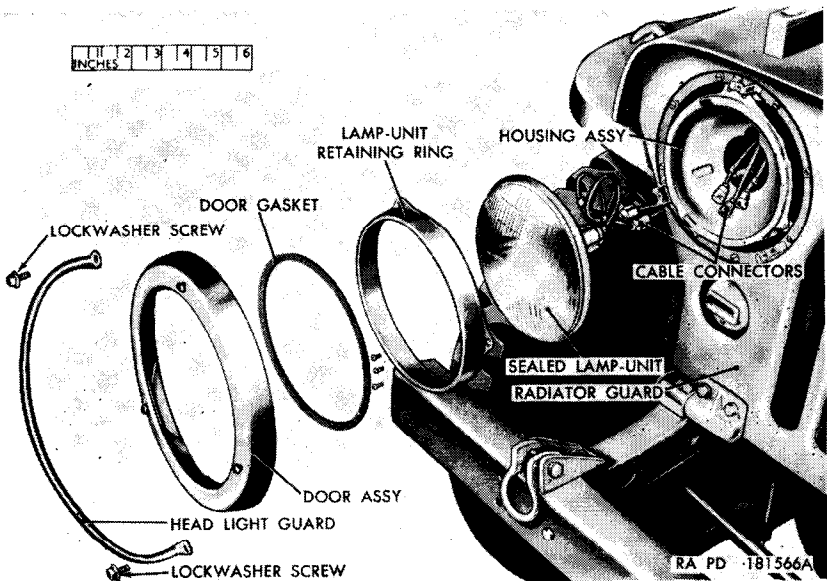

Figure 70. Headlight—partially exploded view.
- (3) *Headlights* (fig. 70). The headlights are adjustable sealed lamp-units located on the front of the vehicle and controlled by switches in the passenger compartment.
a. *Headlight Sealed Lamp-Unit (fig. 70).*
- (1) *Removal.* Remove two lockwasher screws securing the headlight guard to the radiator guard. Unscrew three screws securing the door assembly to the housing assembly and remove the door and door gasket. The screws are fastened in the door to prevent loss. Loosen the three screws securing the lamp-unit retaining ring to the housing assembly, and remove the retaining ring by turning counterclockwise. Pull the sealed lamp-unit from the housing. Pull the three cable connectors from the clips in the housing, and disconnect the cables at the connectors. Remove the sealed lamp-unit.
- (2) *Installation.* Connect cable Nos. 17, 18, and 91 on the sealed lamp-unit to cable Nos. 17, 18, and 91 at the connectors in the housing assembly and clip the connectors in the housing. Place the sealed lamp-unit in the housing with the projections on the edge of the lamp-unit in the notches in the rim of the housing. Place